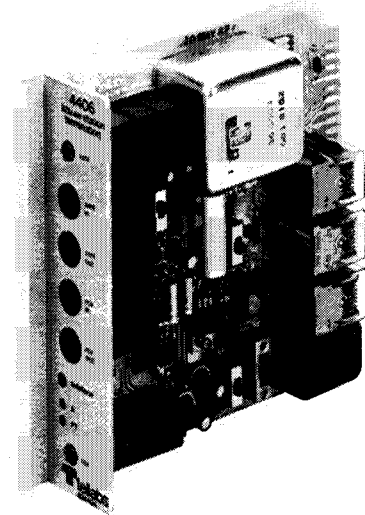

figure 1. 4406 KTU 4Wire Station Termination
1.01 The 4406 KTU 4Wire Station Termination module (figure 1) performs the functions required to integrate a 4wire KTU station instrument into a 4wire voice network. The 4406 provides impedance matching on the station side, contains pickup and push-to-talk relays with auxiliary contacts for activating lamps on the station instrument, and contributes from 0 to 30dB of attenuation in both the transmit and receive channels. A loudspeaker output is available at the receive output port for use in voice-paging networks. The 4406 also provides talk battery and, optionally, sidetone to the station. The 4406 does not directly interface a 4wire facility; a 4wire repeat coil, line amplifier, or other line interface device must be used.